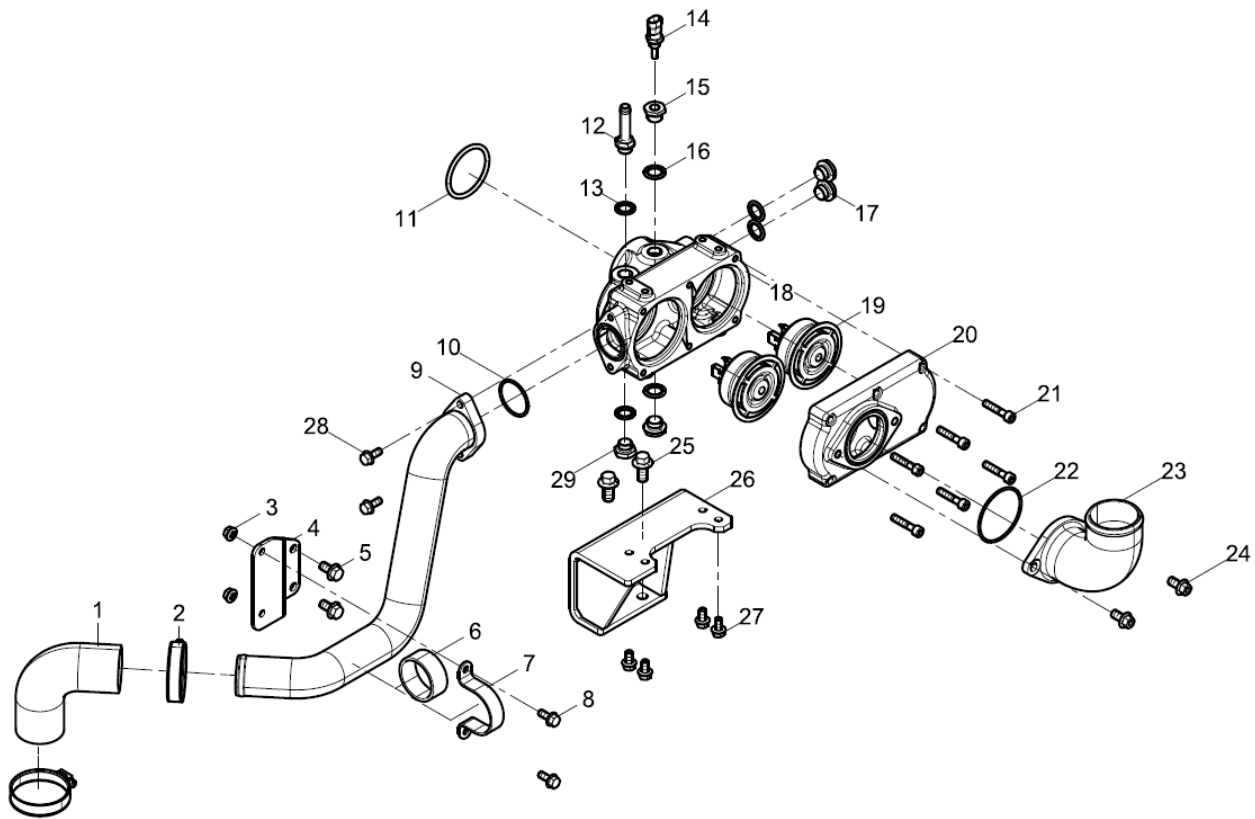

Figure 129. Thermostat Assembly
2. Remove the bolts (Figure 129, Item 21) and remove the thermostat cover (Figure 129, Item 20).
3. Carefully remove the thermostats (Figure 129, Item 19).
1. Install the new thermostats (Figure 129, Item 19) into the thermostat body (Figure 129, Item 18).
2. Install the thermostat cover (Figure 129, Item 20) and insert and torque the bolts (Figure 129, Item 21).